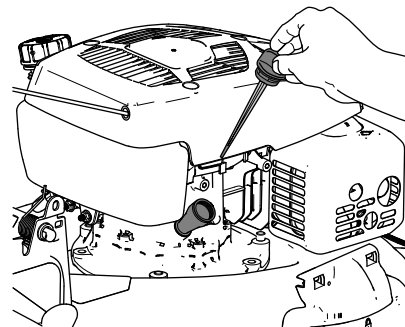

Figure 28
3. Remove the dipstick by rotating the cap counterclockwise and pulling it out (Figure 28).